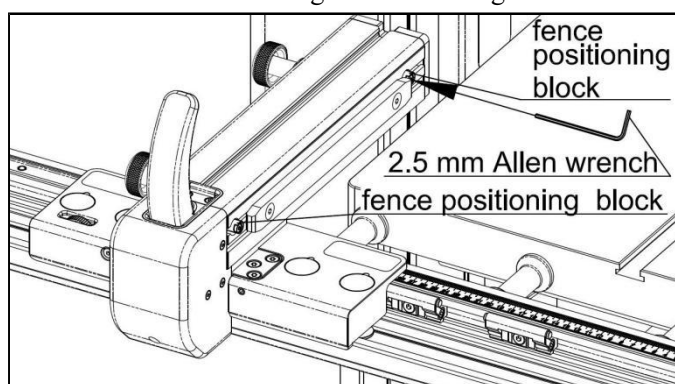

Fig. 10-7
- ① As shown in Fig. 10-7, use a 2.5 mm Allen wrench to loosen the screws on the two fence positioning blocks. Adjust the eccentric angle of the blocks as needed, then retighten the screws.